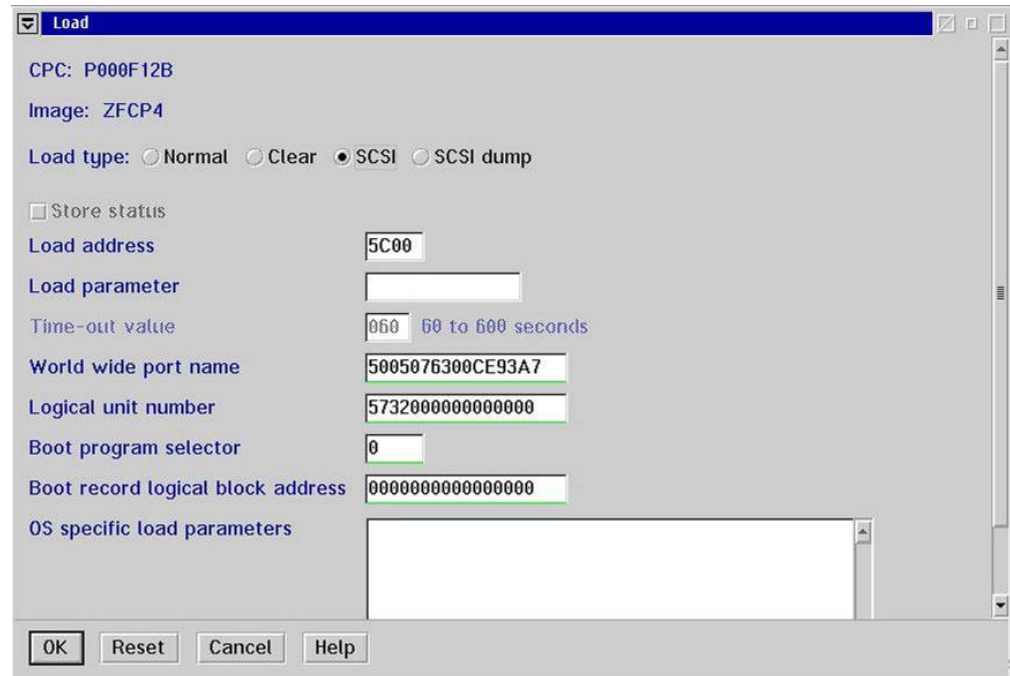

Figure 10. Load panel
1. Once the SCSI IPL feature is active, an enhanced SE or HMC load panel as shown in Figure 10 on page 29 appears.